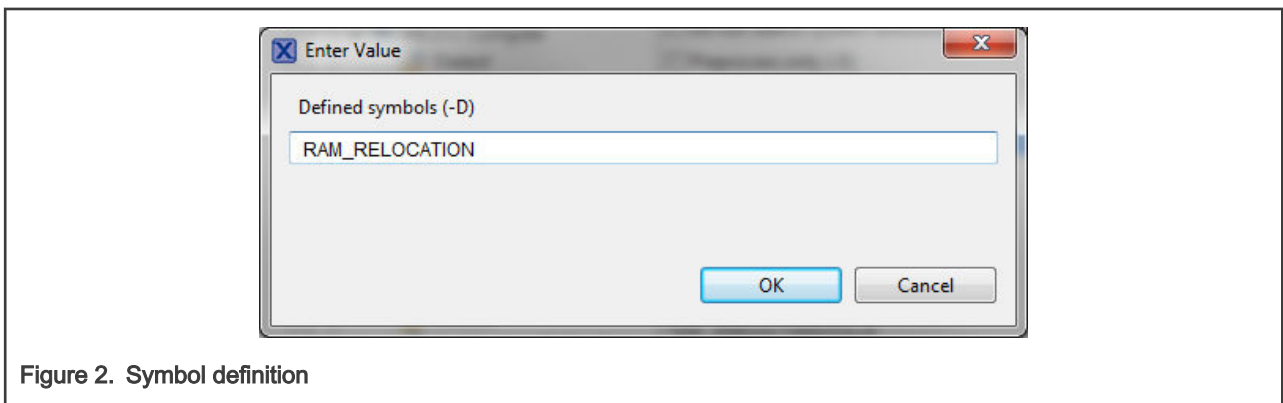

Figure 2. Symbol definition
5. In the dialog that appears (see Figure 2), type the following: